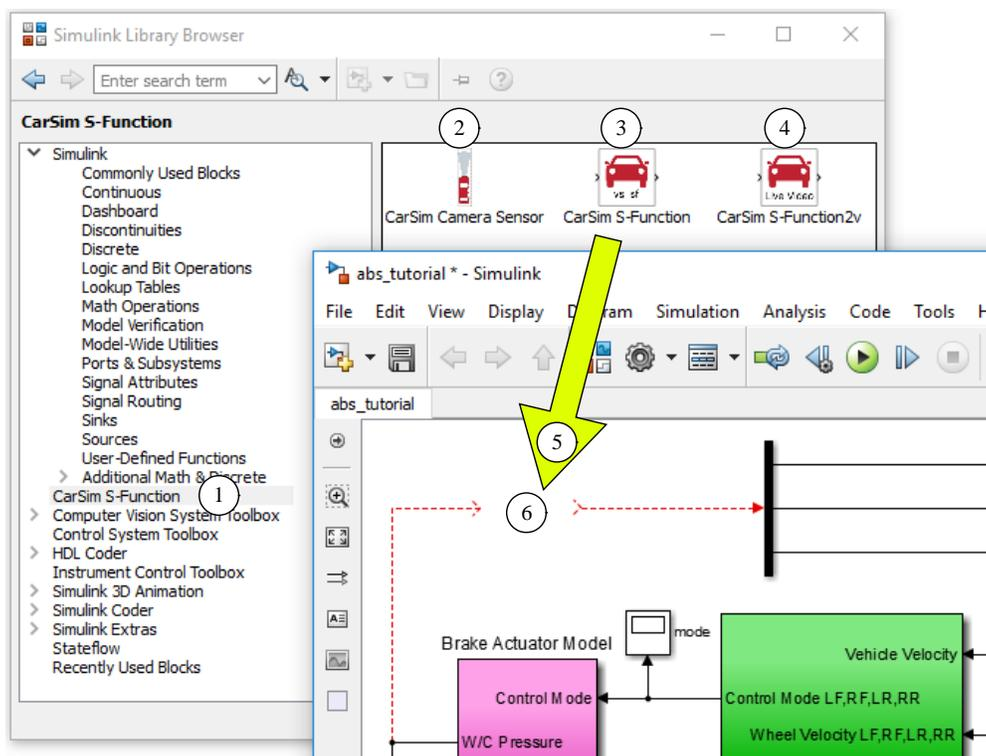

Figure 16. Drag and drop a VS S-Function block from the Simulink Library Browser.
8. Open the Simulink Library Browser (see the Simulink **View** menu). Depending on your products, there will be a CarSim, TruckSim, or BikeSim category (Figure 16). Locate the VS S-Function category (e.g., CarSim S-Function (1)) and click it to view the S-Function blocks (2), (3), and (4).